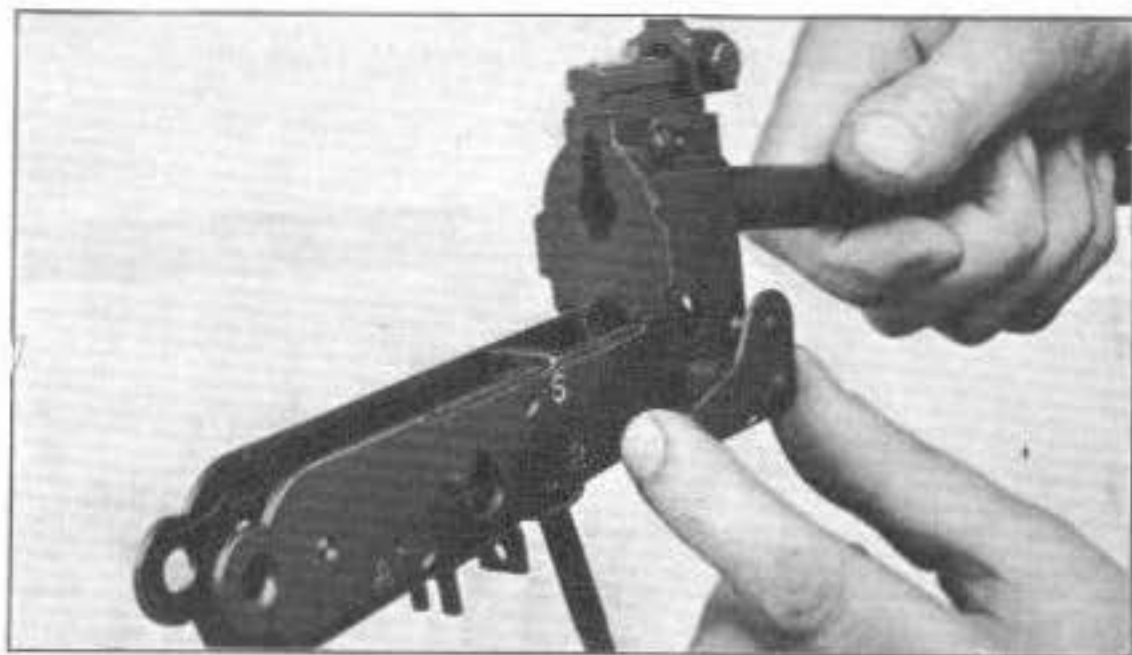

Fig. 122
Exert pressure with finger on end of locking lever axis (right side of trigger frame) and remove locking lever towards the left of frame (fig. 122).
- Replace the lever (fig. 122) and move it until the operating pin is correctly engaged in the lock.